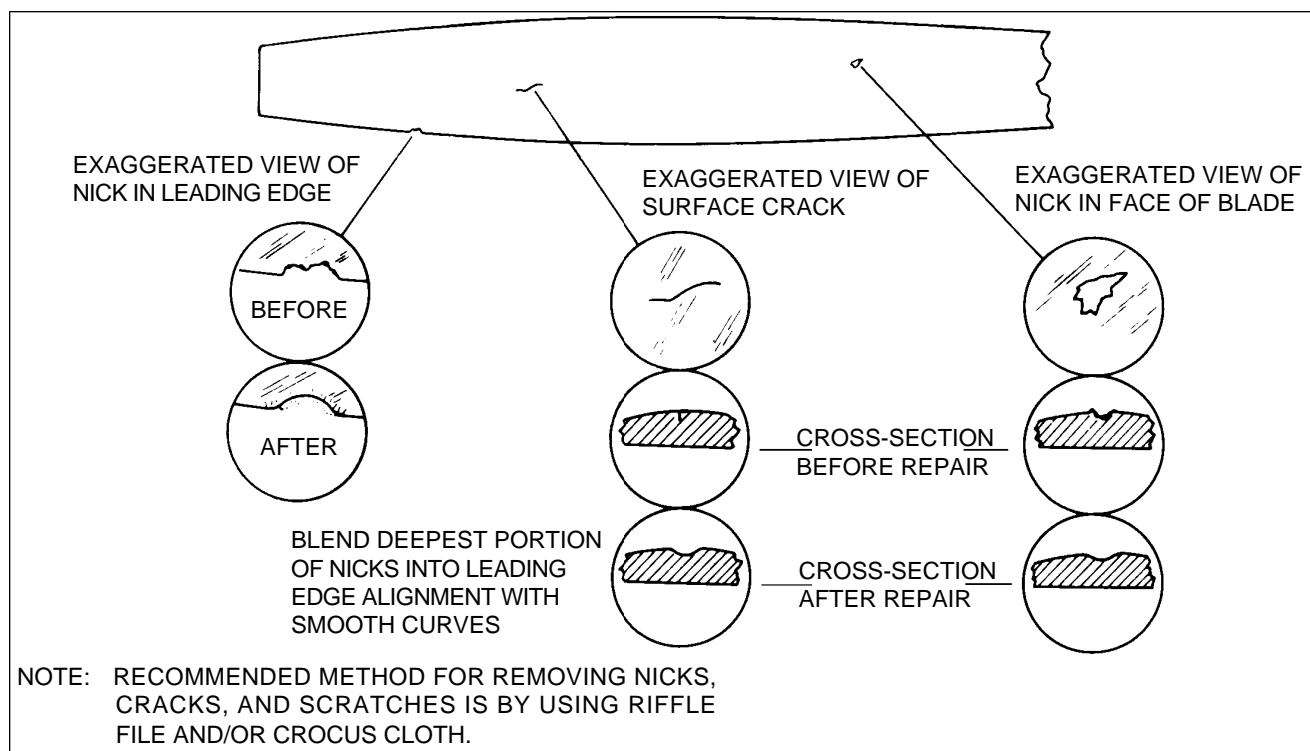

Figure 61-1. Blade Inspection
The Seneca III can be equipped with either a two or three bladed propeller. Hartzell assemblies are utilized for the two bladed installation, with McCauley assemblies utilized for the three bladed propeller installation. Refer to Figures 61-1 and 61-2, and Charts 6101 and 6102 for further information pertinent to installation, inspection, and maintenance.
7. Inspect the blades for damage or cracks. Nicks in the leading edges of blades should be filed out and all edges rounded, as cracks sometimes start from such places. Use fine emery cloth for finishing. (Refer to Figure 61-1 for propeller blade care.)